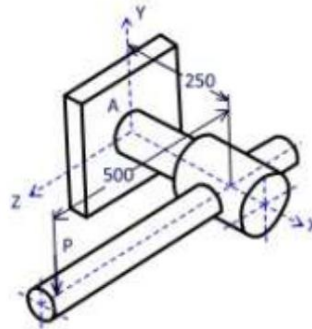

Figure-1
- b) The shaft of an overhang crank subjected to a force P of 1kN is shown in Figure-1. The shaft is made of plain carbon steel 45C8 and the tensile yield strength is 380N/mm^2 . The factor of safety is 2. Determine the diameter of the shaft using the maximum shear stress theory. (All dimensions are in mm) [10M]